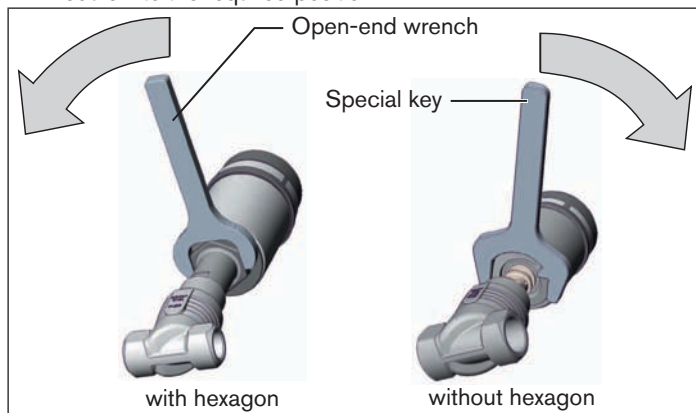

Fig. 18: Rotating with special key / open-end wrench
- Rotate the actuator module in the specified direction only (see "Fig. 18")!